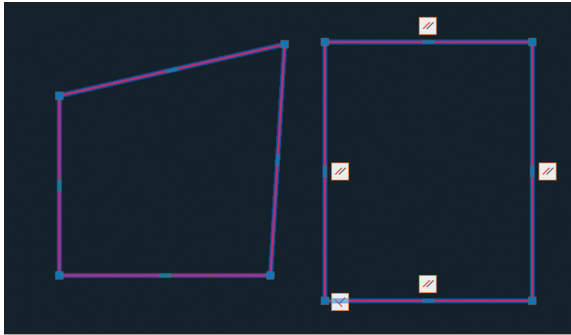

FIGURE 12.2 Stretching constrained geometry limits the types of transformation that can occur.
5. Select both rectangles with a crossing selection window. Hover the cursor over the upper-right grip of the left rectangle, select `Stretch Vertex` from the grip menu that appears, and stretch it up and to the right so that the rectangle deforms. Hover the cursor over the upper-right grip of the right rectangle, select `Stretch Vertex` from the grip menu, stretch it up and to the right, and click to set its new location. The rectangle remains a rectangle because of the constraints (see Figure 12.2). Press `Esc` to deselect.